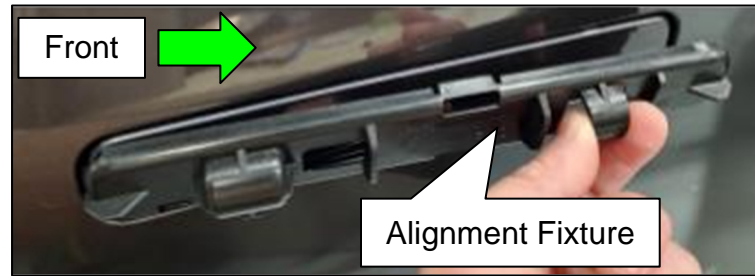

Figure 17
15. Carefully remove the Alignment Fixture starting with the front side of the Door Handle as shown in Figure 17.